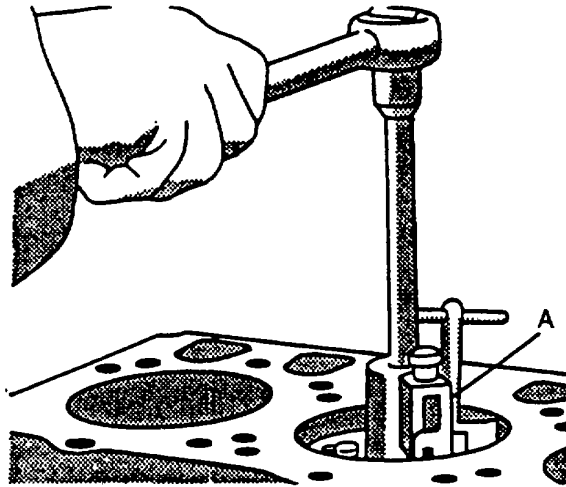

FIGURE 3-141. Removing Carbon From Cylinder Liner
- g. Remove carbon from liner bore with a scraper or reamer, refer to FIGURE 3-141. Use compressed air to remove loose material from cylinders.